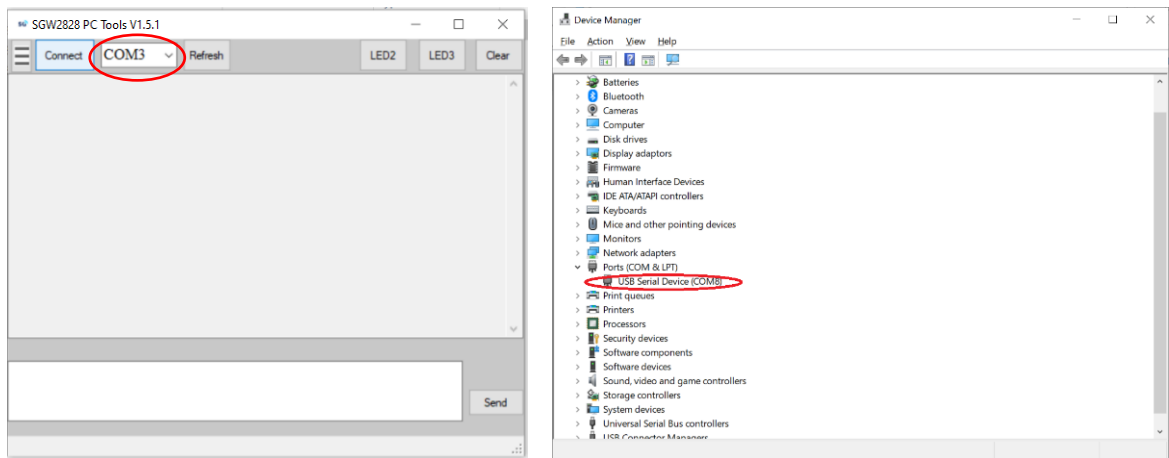

Figure 3: SGW2828-EVK PC Tool COM Port Selection
1. Select the COM port number assigned for the connected SGW2828-EVK, then click 'Connect'. The COM port number may be different for each user, and can be found through Device Manager > Ports (COM & LPT) (Figure 3).